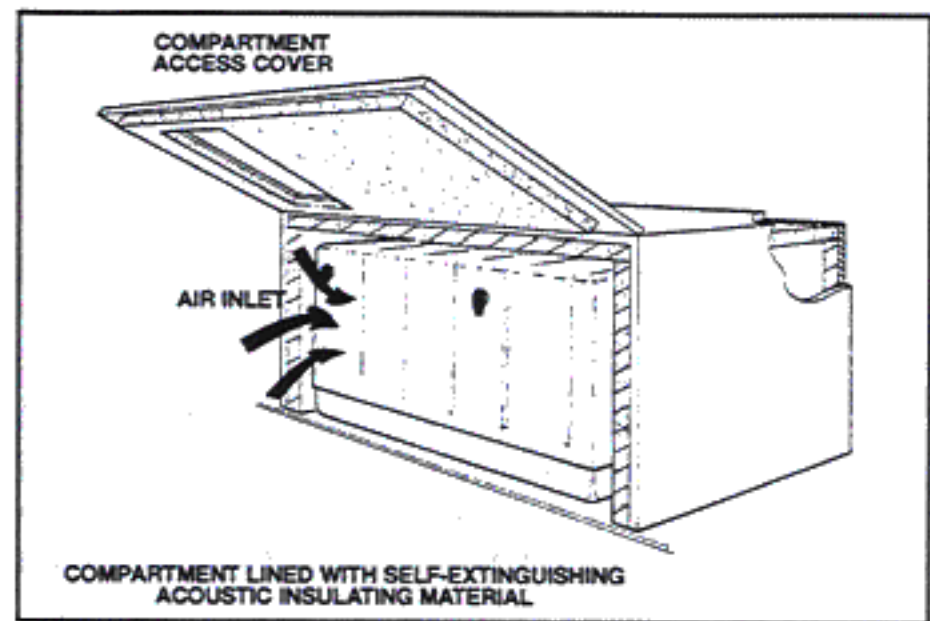

FIGURE 4. COMPARTMENT WITH ACOUSTIC INSULATION
7. See the outline drawing (Page 21) for the minimum inside dimensions of a genset compartment. If the compartment has acoustic insulation (Figure 4), increase the minimum compartment dimensions by the thicknesses of the insulation panels. The following minimum clearances are required between the genset and the compartment or its insulation:
8. Acoustic insulation and adhesive (Figure 4) should be Classified as "Self-Extinguishing" at not less than 200°F (90°C). Do not line the bottom of the compartment with insulation—insulation absorbs spilled fuel and oil.